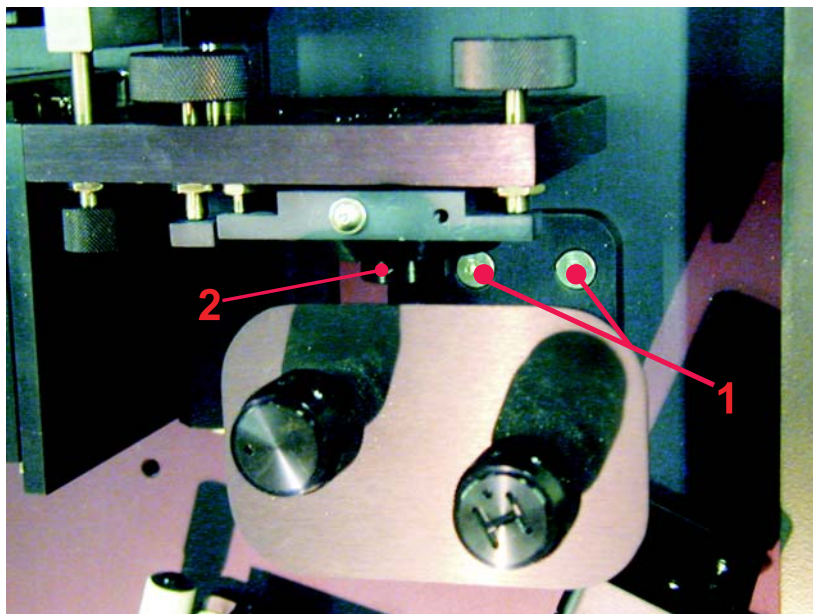
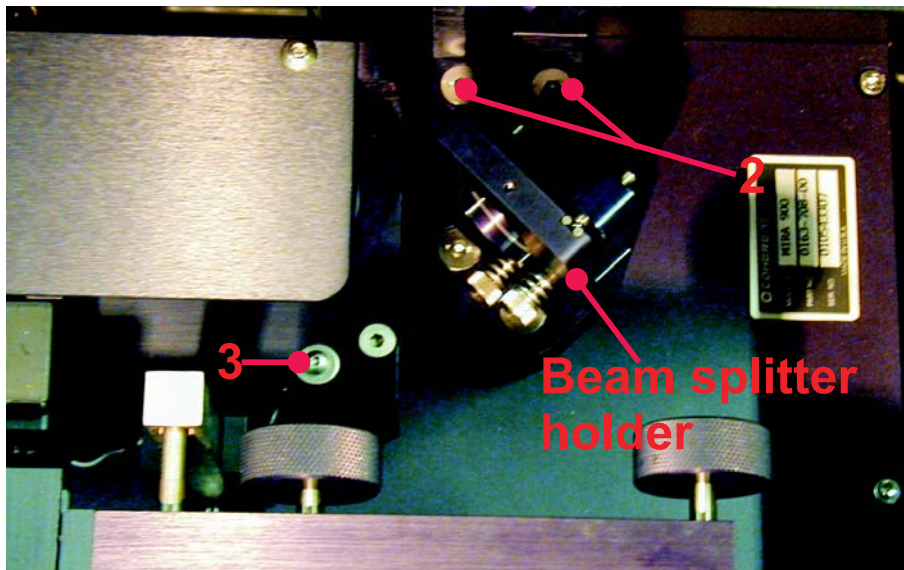
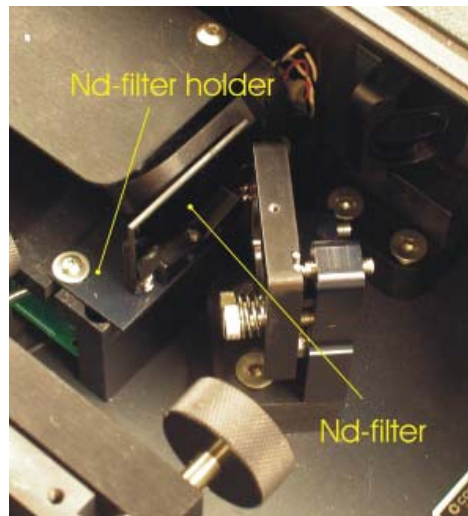

Fig. 6 Mira slit and retaining screws (1) and holder for output coupler (2)
Fig. 7 Mira: showing beam splitter holder, locking screws for Brewster window (2) and retaining screw for electronics unit (3)
Fig. 9 Mira diagnostics unit with installed filter holder and neutral density filter
1. Open the Mira housing and remove the slit (the screws are needed again for mounting the slit in the PulseSwitch) (1 in fig 6), the output coupler M1 (2 in Fig. 6) and the output beam Brewster window (retaining screws: [2] in Fig.7). Take out the beam splitter (1 inch glass plate) from its holder (Fig. 7) and replace it with the delivered one.
2. Loosen the retaining screw of the Mira diagnostics electronic (3 in Fig. 7). Slide the delivered filter holder (Fig. 8) under the retaining screw and tighten the screw again. Then place the neutral density filter into the holder. (see Fig. 9).